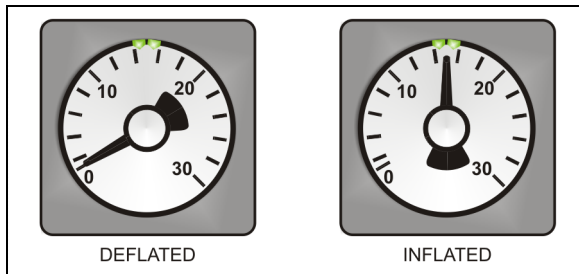

FIGURE 14: INFLATABLE SEAL PRESSURE GAGE
- Finally, the inflatable seal can be re-inflated by turning the shut-off valve handle counterclockwise. Check the pressure gage on the inflatable seal regulator to see if the pressure increases to around 15 psi (Figure 14). Needle should be pointing between the two small green marks on the dial.
- Finally, the inflatable seal can be re-inflated by turning the shut-off valve handle counterclockwise. Check the pressure gage on the inflatable seal regulator to see if the pressure is increasing to 15 psi (Figure 14).